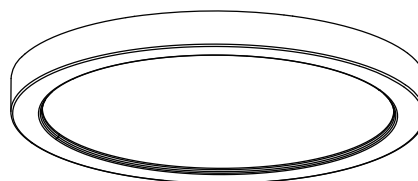

Fig. 5
6. Once assembly is complete, turn on power to confirm fixture is working properly. (Fig. 5)